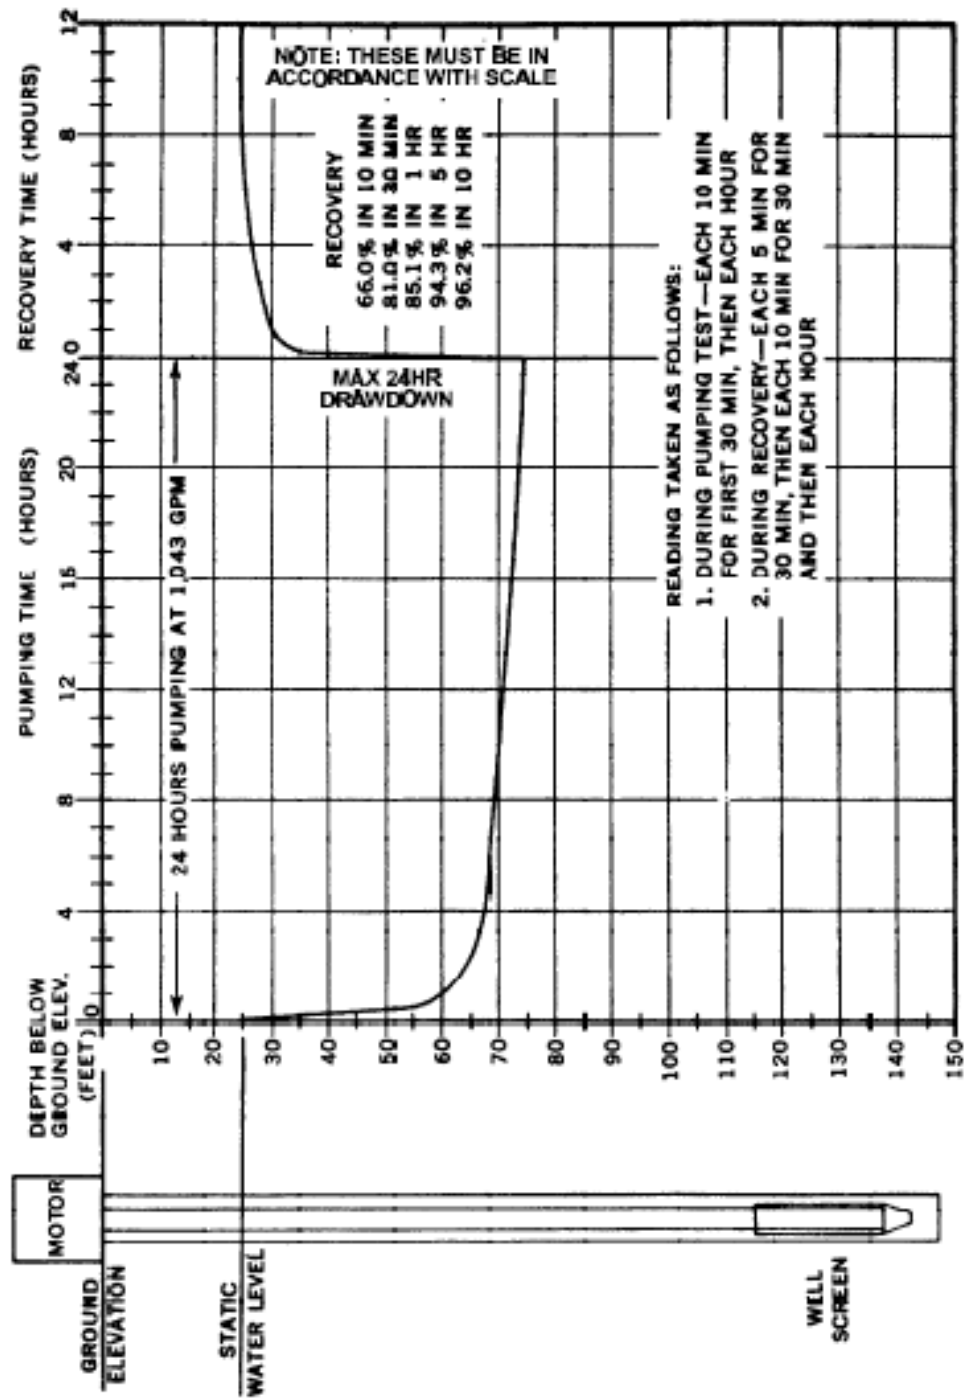

Figure 6
3.2.5.4 STARTING A NEW WELL PUMP. Table 18 lists startup procedures for vertical turbine well pumps. While plant operators will not generally be responsible for performing these startup procedures, they may be charged with overseeing the contractors performing installation and it is preferable that they are familiar with the startup tasks. Figure 6 shows the necessary water-level checks. If problems occur, refer to the troubleshooting checklist provided in Table 19.
Water level	Make immediate check of water level and record data for future reference. Perform pumping and recovery water-level checks as shown in Figure 6.